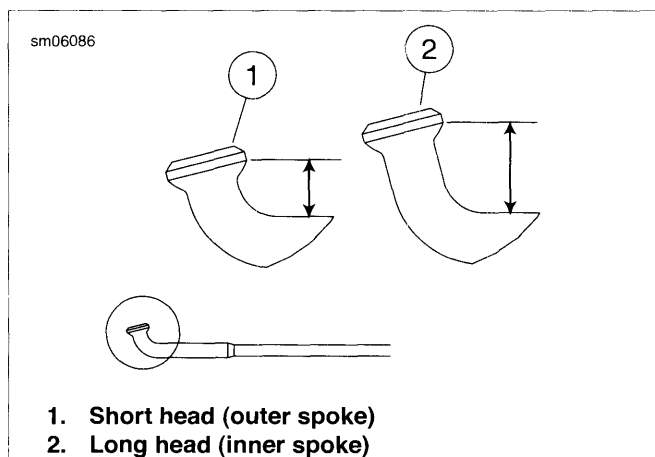
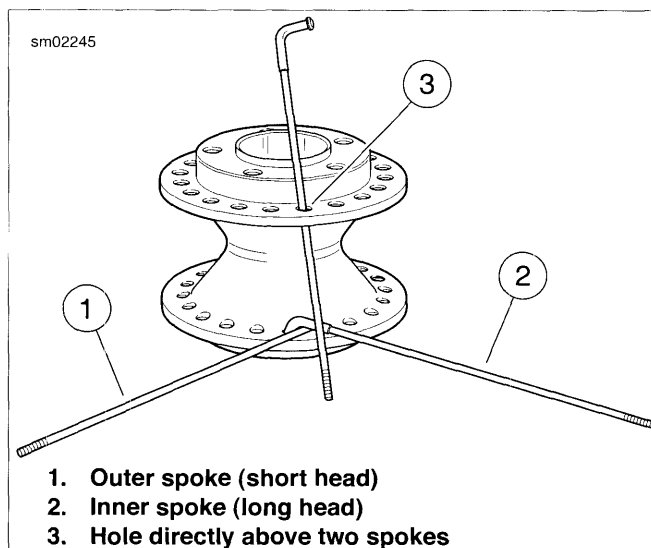
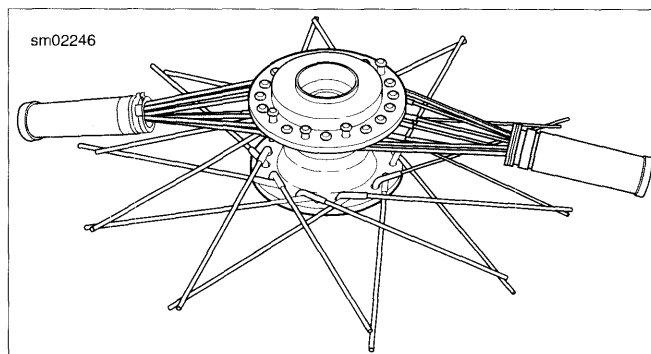

Figure 2-25. Spoke Heads
Figure 2-26. Lacing Single Row Wheel Hub
Figure 2-27. Bundling Top Spokes
- See Figure 2-26. The following procedure is valid for 40-spoke wheels that use a straight flange, single spoke hole circle hub regardless of rim style or diameter.
1. See Figure 2-25. Divide spokes into inner and outer groups.
- a. Inner spokes (2) have long heads.
- b. Outer spokes (1) have short heads.
2. See Figure 2-26. Place hub on bench with the primary brake disc side up. Insert one outer spoke (1) (short head) into any bottom flange hole and swing it clockwise. Insert an inner spoke (2) (long head) in the next hole counterclockwise from the outer spoke. Swing the inner spoke counterclockwise over the outer spoke.
3. Find the hole (3) in the upper flange directly above the two spokes and insert a long head inner spoke. Insert all remaining spokes in the upper flange, alternating the inner and outer spokes.
5. See Figure 2-27. Group all spokes on the upper flange into two bundles of ten and secure each group with throttle grips.